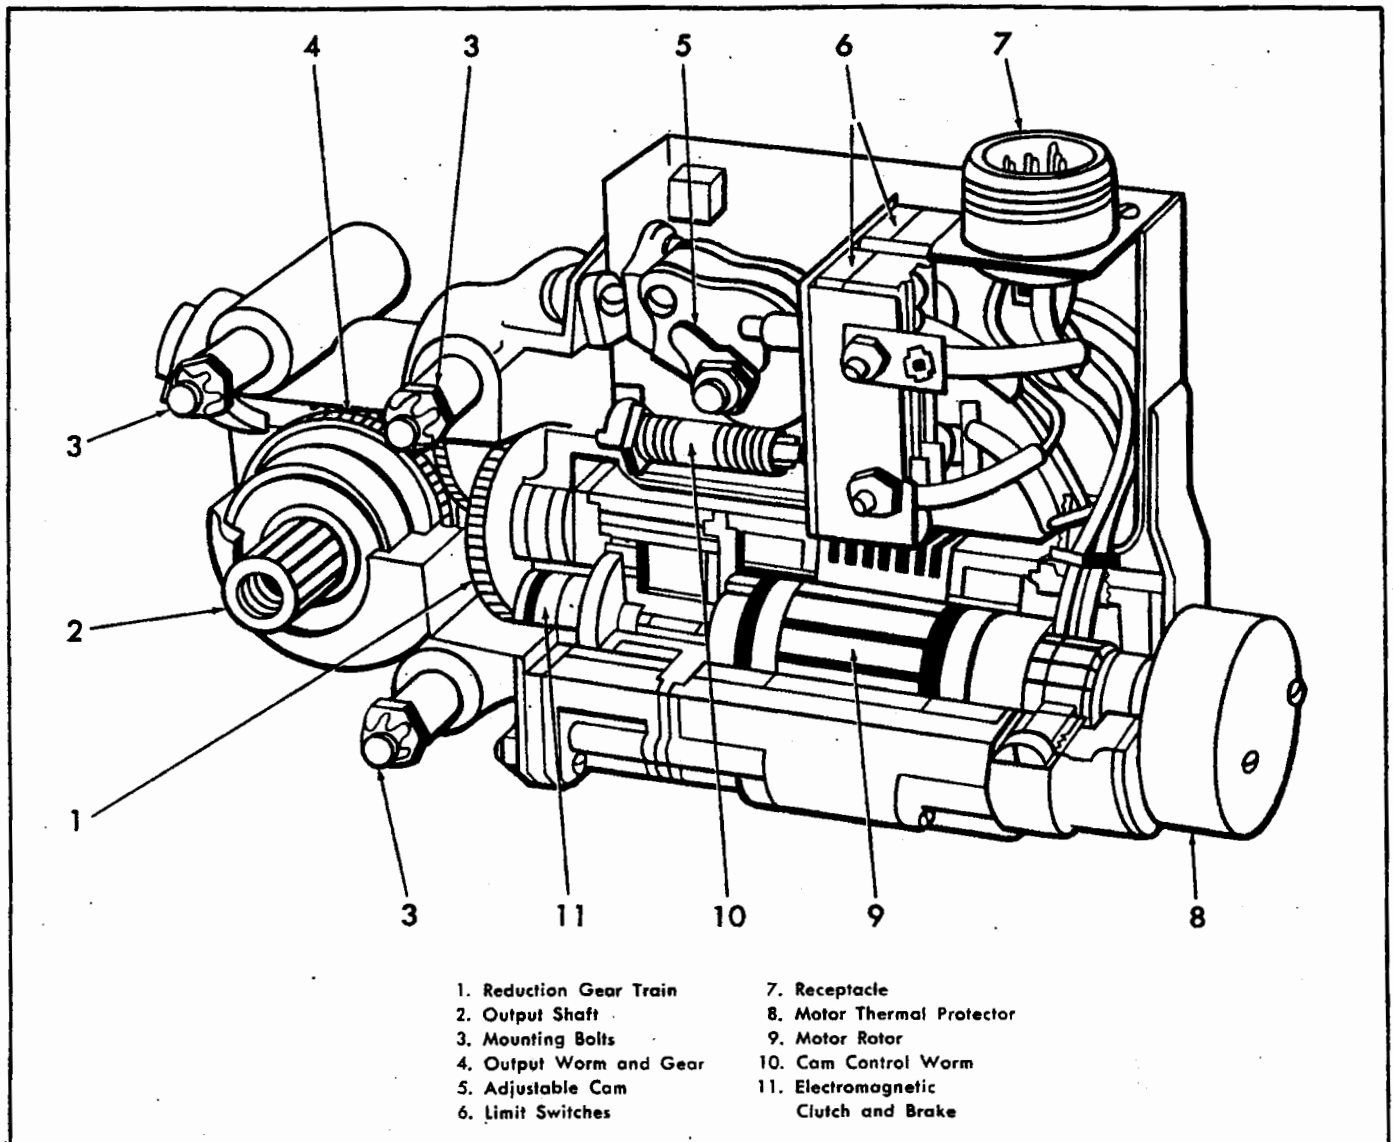

Figure B-3. Sliding Door Actuating Motor.
B-16. DESCRIPTION. (See figure B-3.) The door actuating motor, located at fuselage station 250, is manufactured by Lear, Inc., of Grand Rapids, Michigan, their part number 111-BL, and is an electrically operated mechanism which actuates the threaded Teleflex cables attached to the bottom and left and right side camera doors. The actuator is energized through a toggle switch located on the right hand control panel in the cockpit. Basically, this rotary actuator is an electric motor (8) energized by the airplane power source, having an electromagnetic clutch and brake (9). The motor furnishes
B-19. ADJUSTING. (See figure B-3.) The amount of travel of the Teleflex cable is controlled by the setting of the adjustable cam (4) on either side of the rotary actuator housing. These cams are preset for specified rotation by the manufacturer. For the sliding door actuating motor the cams are adjusted so that the Teleflex cables move the doors 9 1/4 inches. If it should be necessary to adjust the actuator the following procedure should be followed:
- b. Using an Allen wrench loosen the adjusting cam (4) (the front cam for the side doors and the rear cam for the bottom door) and adjust it so that it will move the doors 9 1/4 inches.
- d. When the proper adjustment has been made, lock the adjusting cam (4) in place and replace the cover plate.